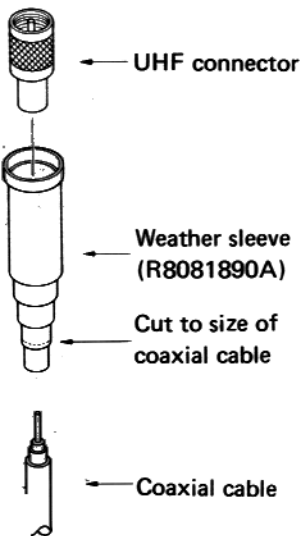

Figure 5
2. Referring to Figures 5 and 6, cut the small end of each weather sleeve to the correct size to provide a tight fit around the cables being used – one for each coax and one for the control cable. Then slide the sleeves over the cables and solder the wires to the connectors. The wiring of the 4-pin connector is indicated in Table 1.